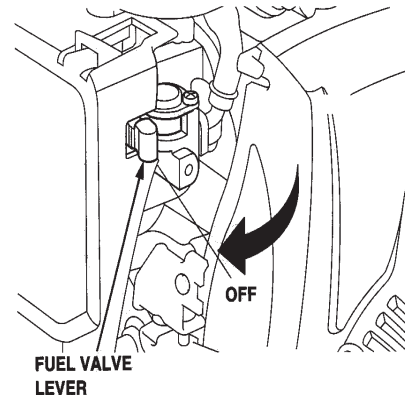

Figure 19. Fuel Valve Lever (OFF)
4. Place the **fuel shut-off lever** (Figure 19) in the **OFF** position.